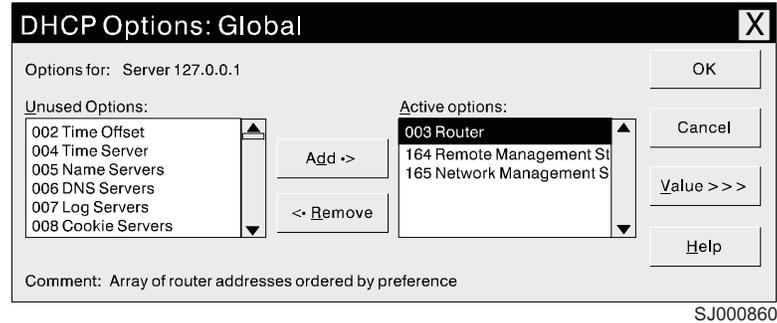

Figure 10. DHCP Options: Global window
- a. Click **DHCP Options** → **Global**. The DHCP Options: Global window opens as shown in Figure 10.